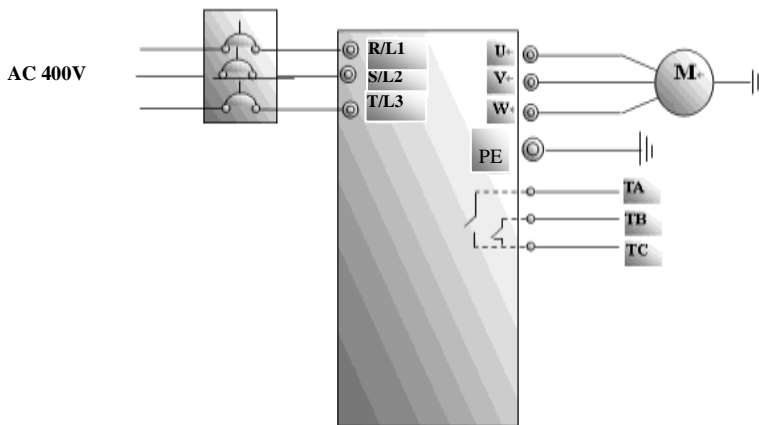

Figure 4-1 Wiring Diagram 1
- (1) Connect the wires in accordance with Figure 4-1. After having checked the wiring successfully, switch on the air switch, and power on the inverter.
(1) Connect the wires in accordance with Figure 4-1. After having checked the wiring successfully, switch on the air switch, and power on the inverter;
(2) Press the “Fun” key, to enter the programming menu.
(3) Study the parameters of the motor: the operation process is the same as that of example 1.
(4) Set functional parameters of the inverter:
① Enter F132 parameter and set it to 1; select keypad jogging;
② Enter F200 parameter and set it to 0; select the mode of running command control as keypad operation;
③ Enter F124 parameter, and set the jogging operation frequency to 5.00Hz;
④ Enter F125 parameter, and set the jogging acceleration time to 30S;
⑤ Enter F126 parameter, and set the jogging deceleration time to 30S;
⑥ Enter F202 parameter, and set it to 0; select forward running locking.
(5) Press and hold the “Run” key until the motor is accelerated to the jogging frequency, and maintain the status of jogging operation.